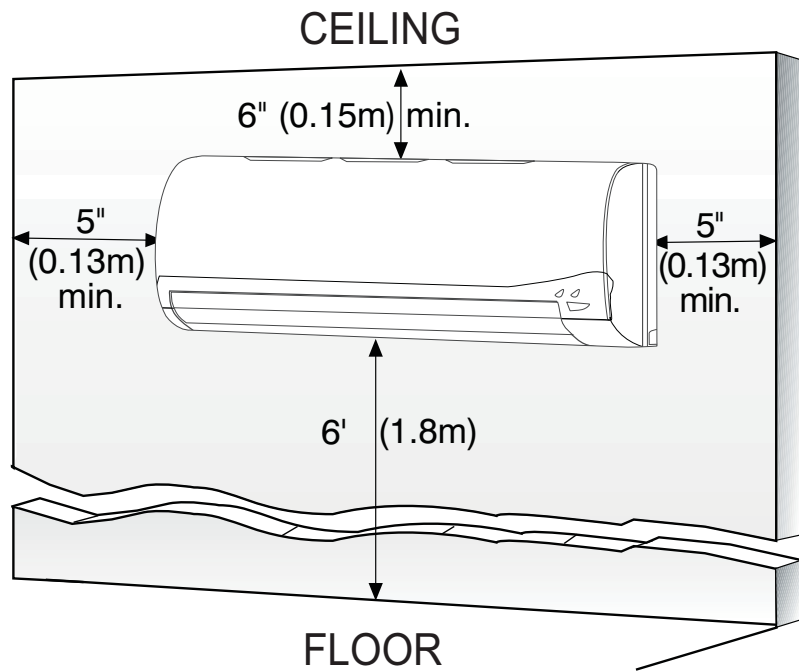

Fig. 4 - Indoor Unit Clearances
Allow sufficient space for airflow and servicing unit. See Fig. 4 for minimum required distances between unit and walls or ceilings.
- A location which provides appropriate clearances as outlined in Fig. 4. Be sure to leave enough distance to allow access for routine maintenance. The installation site should be 72" or more above the floor.
- A location which provides appropriate clearances as outlined in Fig. 4.